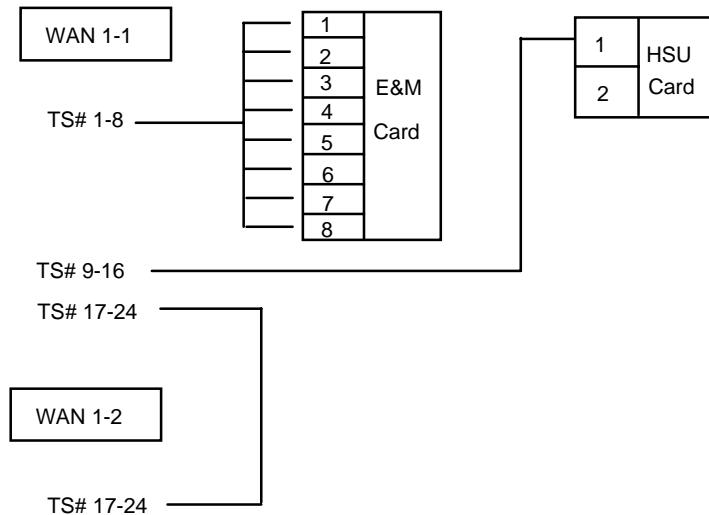

Figure 3-15. Time Slot Assignment Example
The time slot assignments depend on your networking needs. Figure 3-15 shows typical time slot assignments for a drop-and-insert system with an E&M voice card and an HSU data card on a T1 link. In this example, WAN port 1-1 time slots (TS) 1 through 8 are assigned to ports 1 through 8, respectively, of the E&M card. Time Slots 9 to 16 of the same WAN port are assigned to port 1 of an HSU data card. This port is a high-rate data port that requires eight time slots.
Each port of the E&M card can only be assigned a single WAN time slot, or 64 kbps of bandwidth on a T1 or E1 link. The same is true for the ports on all other types of voice cards. However, each port of an HSU data card may need multiple WAN time slots, depending on the data transmission rate of the associated CPE. In Figure 3-15, eight time slots are assigned to port 1 of the HSU card, so its aggregate rate is either 448 kbps (at 56 kb per channel) or 512 kbps (at 64 kb per channel).
Figure 3-17 shows the HSU Card Main Screen for the example of Figure 3-15. Assign time slots to this card as follows: